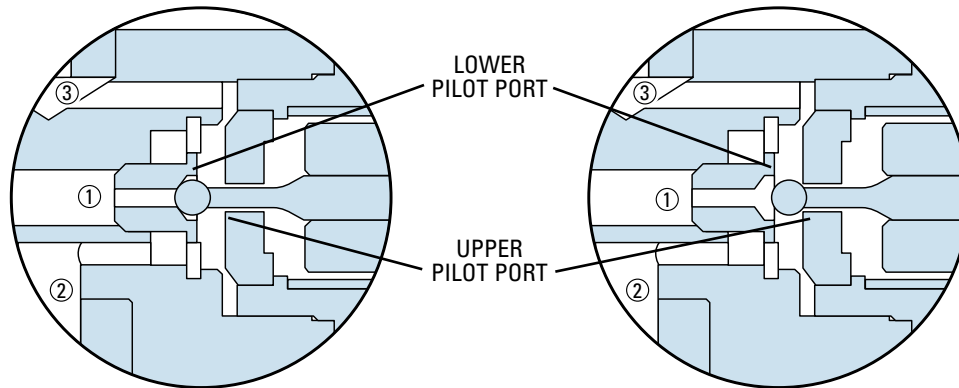

Figure 3
See Figure 3, page 21. When the pilot valve is energized, high side pressure ① is permitted to flow through the lower pilot port. At the same time, the upper pilot port is closed to suction E. High side pressure ①, builds up on top of the piston, moves the piston-seat assembly to close the normal condenser port, and opens the reclaim (upper) main port. With the upper pilot port closed, there is no high to low side bleed with the system in the reclaim mode.